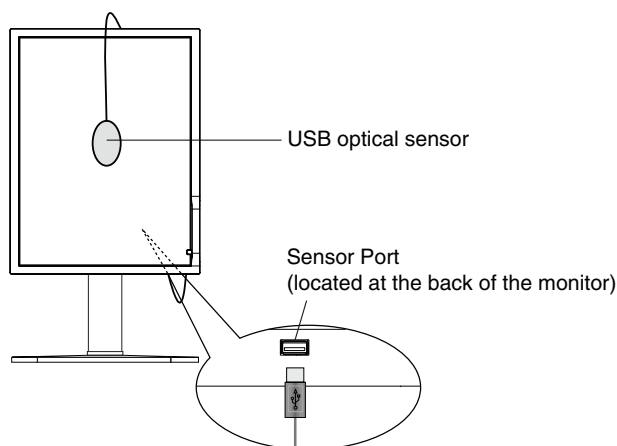

Figure S.1
1. To show the CALIBRATION menu, plug-in the USB optical sensor to the sensor port (**Figure S.1**) or select STAND ALONE CALIBRATION in the advanced menu (page 20).
6. The procedure will ask for the USB optical sensor to be placed on the center of the display panel (**Figure S.4**). Tilt the display panel approximately 5° backward and place the USB optical sensor in the center of the display panel (**Figure S.1**).